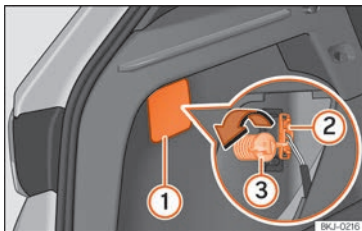
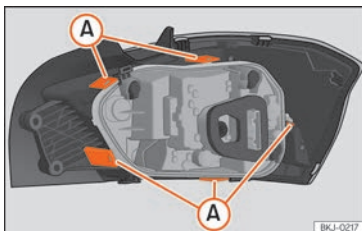

Fig. 108 Boot: access to the bolt securing the tail light unit.
Fig. 109 Retaining tabs on reverse side of tail light.
»» Fig. 108 ①.
4. Remove the bulb connector ②.
5. Unscrew the bolt securing the light ③ by hand or using a screwdriver.
7. Remove the bulb holder unlocking the retaining tabs »» Fig. 109 A.